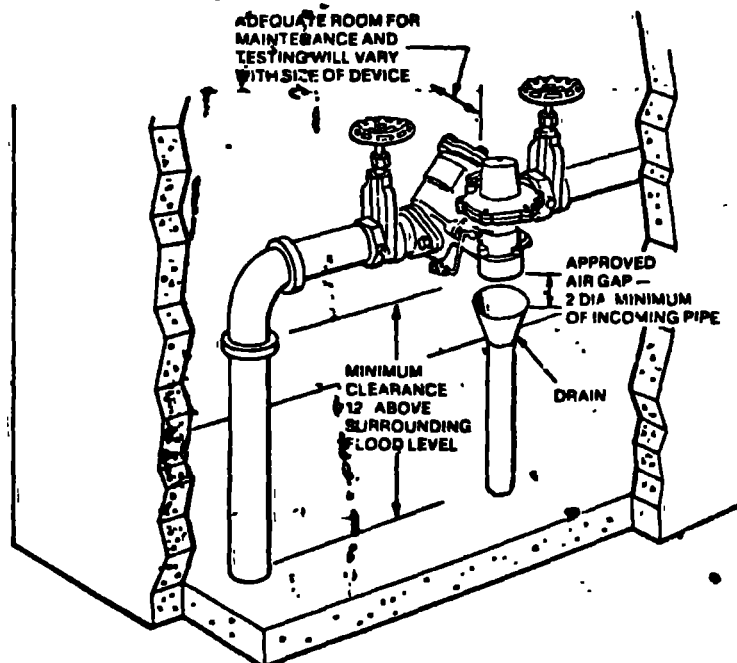

Figure 2. Typical Installation in Building
- 4 Provide a suitable drain arrangement to drain off spillage from the relief valve. An air gap of at least two times the pipe diameter must be provided between the relief valve and the drain piping (Figure 2).